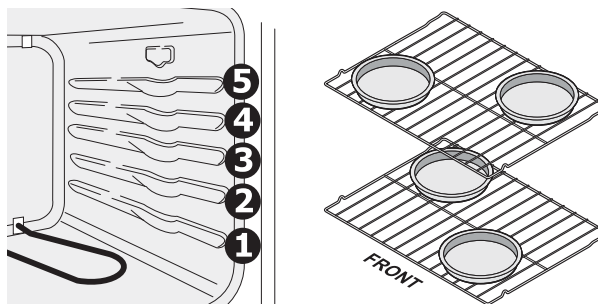

Figure 5: Rack positions (L) and cookware placement (R)
- When baking cakes using two oven racks, place racks in positions 2 and 4 and position cake pans as shown (See Figure 5).